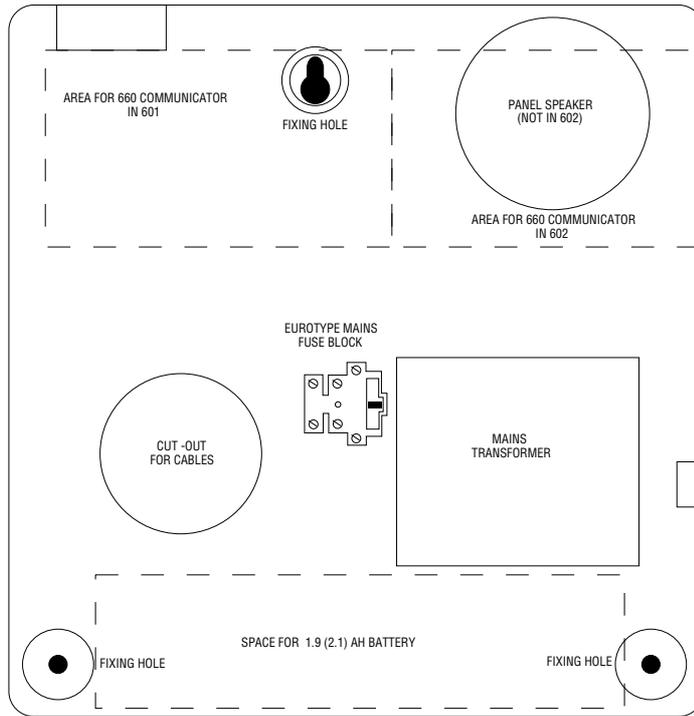

Figure 5. Inside Back of Case
Figures 5 and 6 show the layout of the panel inside the case and the connectors available.
1. Lead the mains cable behind the case and in through the mains cable cut-out, just above the battery (see Figure 5).
A 1.9(2.1)Ah maximum rechargeable battery will fit within the panel. Figure 5 shows the position of the battery within the case.